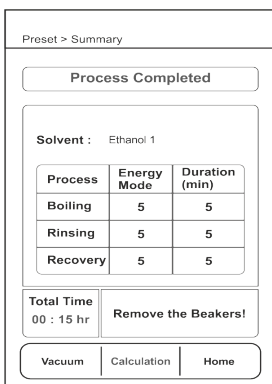

Fig. No. 27.4
- **Process Completion** (Ref. Fig. No. 27.4): Once the process is complete, the system will navigate to the **Process Summary** page.